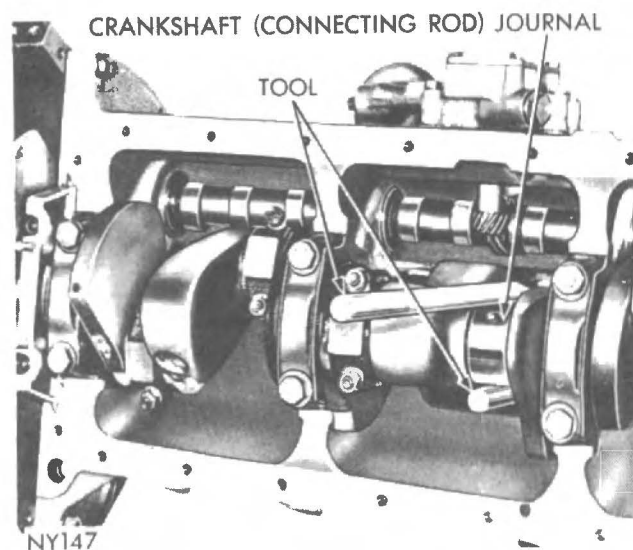

Fig. 39 Removing and installing connecting rod (Tool CA-3221).
(6) Attach the puller part of Tool CA-3221 on the other bolt, and guide the rod over the crankshaft journal (Fig. 39). Be careful not to nick the connecting rod journals.
(7) Tap piston down in cylinder bore, using the handle of a hammer. At the same time guide connecting rod into position on crankshaft journal.
(8) Install the rod caps, tighten nuts to 45 lbs./ft.